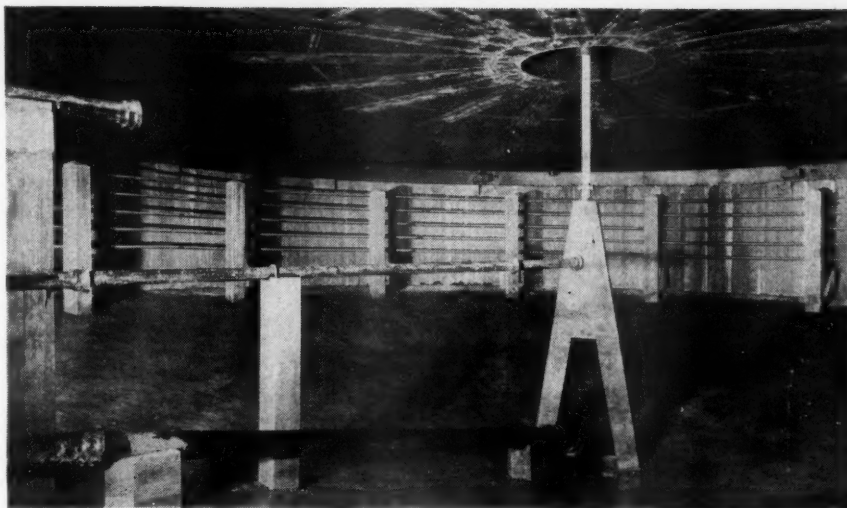

Fig. 15. Interior of PFT 75 ft. floating-cover digester at Greenville, S. C.
Sludge digests best at a temperature of 80° to 95° F. Sewage is much cooler than this—usually varying, during the year, from 45° F. to 70° F. Therefore in most tanks it is desirable and economical to heat the sludge, since digestion is more rapid and a smaller tank can be used—2 to 3 cu. ft. per person is probably enough for a heated tank, but at least 4 cu. ft. per person is necessary for an unheated one. (Except in warm climates.) In both cases, more space may be required if secondary treatment is provided. This heating is usually accomplished by means of hot water pipes placed around the inside of the tank, as shown in Fig. 15 and the water is heated by burning the gas that is formed during the digestion of the sludge. This gas, which is largely methane—about 65%—has a heat value of around 650 b.t.u. per cubic foot or about the same as ordinary cooking gas. About 1 cu. ft. per person per day is produced on an average, but this may be more or less.
*The PFT Floating Cover.*—Fig. 15 shows a digestion tank equipped with a Pacific Flush Tank Co. floating cover. The sludge enters the tank through the sludge inlet. No stirring devices are provided. The cover floats on the surface of the sludge, and the gas is collected in the gas chamber at the top.